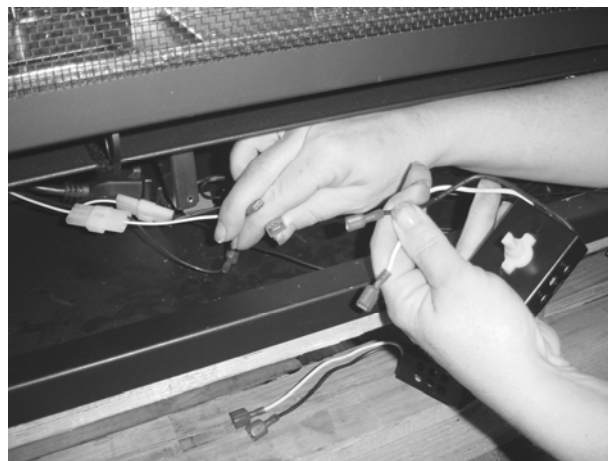

Figure 2
- 2 Pull the knob off the accent light rheostat. Unscrew the rheostat nut to remove the rheostat from the control panel. Disconnect the two wires leading to this rheostat (see Figure 2).